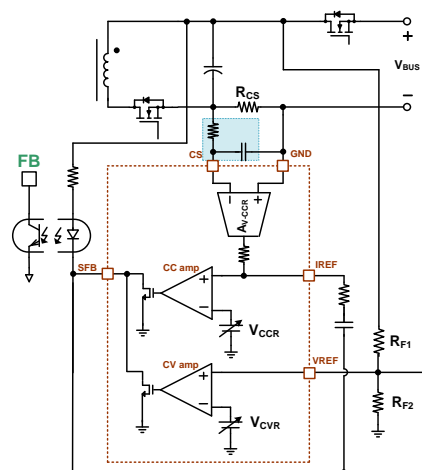

Figure 24 Constant Voltage and Constant Current Circuit
The internal constant voltage control block regulates adaptive output voltages. Output voltage is sensed through an external resistor divider. The sensed output voltage is connected to the VREF which is the non-inverting input terminal of the internal operational amplifier. The inverting input terminal is connected to the internal voltage reference (V_{CVR}) which can be adjusted according to the requested output voltage via Quick Charge 3.0 protocol. The amplifier and an internal switch operate as a shunt regulator. The output of the shunt regulator is connected to the external opto-coupler, and this pin is named as Secondary Feedback (SFB). To compensate output voltage regulation being stable, one capacitor and one resistor are connected typically between the SFB and VREF pins as shown in Figure 24. The output voltage can be derived as shown in equation (1) and the recommended ratio of the resistor divider is 5.
In order to support adaptive constant output current, FAN6291Q incorporates the constant-current control circuit internally. Output current is sensed via a current-sense resistor, R_{CS} , which is connected between the CS pin and GND pin. The sensed signal is internally amplified, and this amplified voltage is connected to the non-inverting input of the internal operation amplifier. Likewise the constant voltage amplifier circuit, it also plays a role as a shunt regulator to regulate the constant output current. In order to compensate output current regulation, one capacitor and one resistor are connected between IREF and SFB pins typically as the Figure 24. The constant output current is decided by the equation (2). 30 mΩ is typically used for the sense resistor.
Since CS pin senses small amounts of voltage, the sensing resistor should be positioned as close as possible to CS pin. Shown in Figure 24, an RC low pass filter can be added on the CS pin to be immunized from noise.